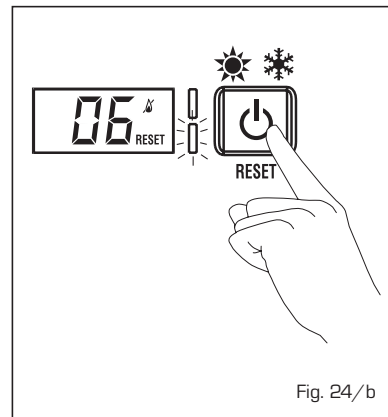

Fig. 24/b
- SAFETY THERMOSTAT ANOMALY ALARM 07 (fig. 24/c)